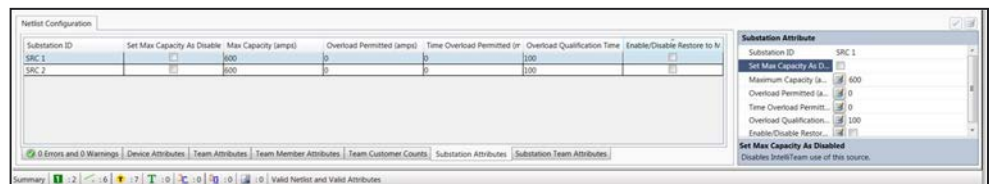

Figure 79. The Substation Attributes tab is used for editing source parameters.
STEP 5. Click on the **Substation Attributes** tab below the configuration dialog box and the Substation Attribute dialog box will open. Highlight the Substation ID entry for the source to configure. See Figure 79.